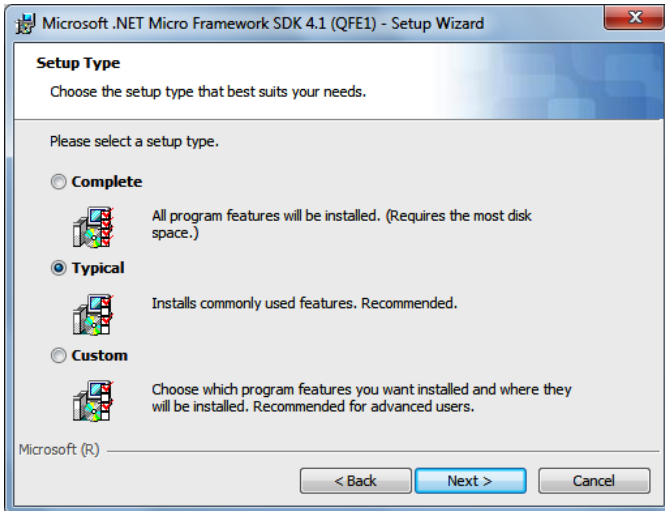

Figure 2-3. Choosing a setup type
2. The next step asks you to choose a setup type (see Figure 2-3). Select "Typical" and click Next.